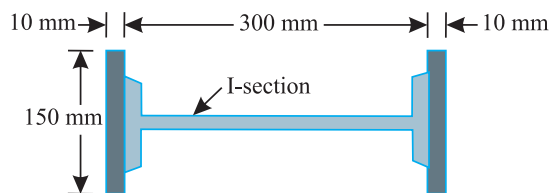

Fig. 7.27.
- A built-up section consists of an I-section and two plates as shown in Fig 7.27. Find values of  $I_{XX}$  and  $I_{YY}$  of the section. Take values of  $I_{XX}$  as  $3.762 \times 10^6 \text{ mm}^4$  and  $I_{YY}$  as  $73.329 \times 10^6 \text{ mm}^6$  respectively for the I-section.